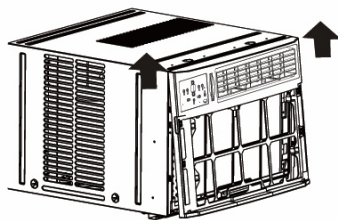

Fig.3A
5. Lift the front panel off of the unit. (Figure 3A)